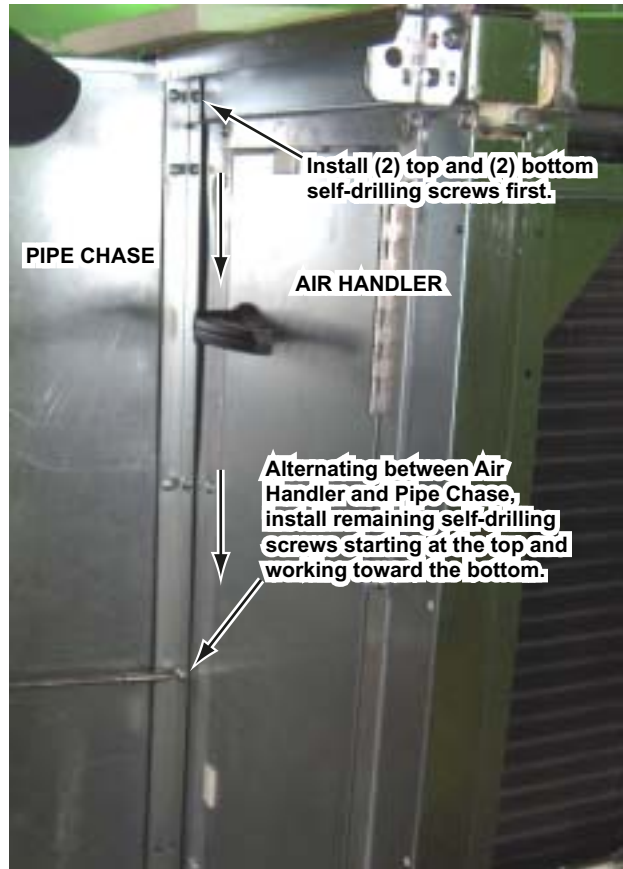

FIG. 10 – PROPER PATTERN FOR INSTALLING SELF-DRILLING SCREWS TO COVER ANGLE
- Starting at the top and alternating between the air handler and pipe chase, continue installing self drilling screws until reaching the bottom. Use caution not to strip the 20-gage housing with the (see Fig.10).